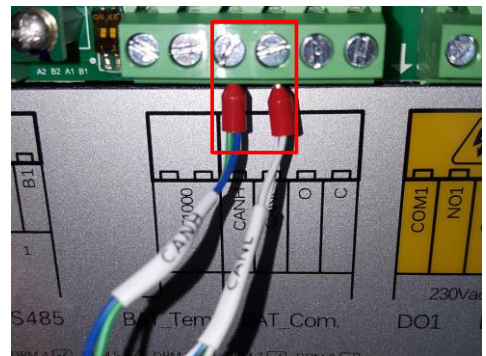

Figure 7 Insert CANH and CANL pins to SH5K+ circuit board
Step 2 Plug CANH into the CANH port and plug CANL into the CANL port of the configuration circuit board of SH5K+ (Figure 7).